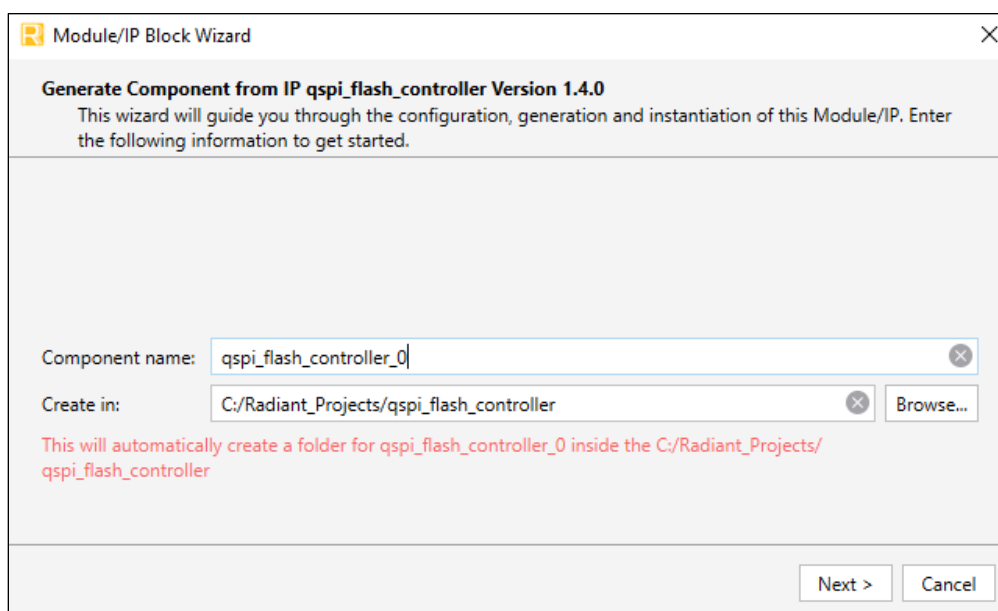

Figure 7.1. Module/IP Block Wizard
2. In the **IP Catalog** tab, double-click **QSPI Flash Controller** under **IP, Processors, Controllers, and Peripherals** category. The **Module/IP Block Wizard** opens as shown in Figure 7.1. Enter values in the **Component name** and the **Create in** fields and click **Next**.
5. Click **Finish**. All the generated files are placed under the directory paths in the **Create in** and the **Component name** fields shown in Figure 7.1.